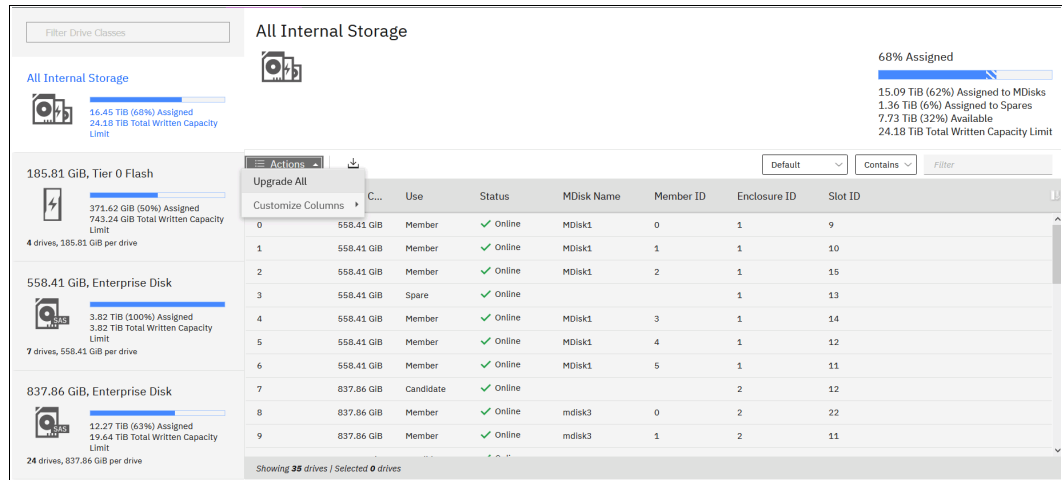

Figure 13-28 Upgrading all internal drives
3. Click **Actions** and select **Upgrade all**, as shown in Figure 13-28 on page 823.